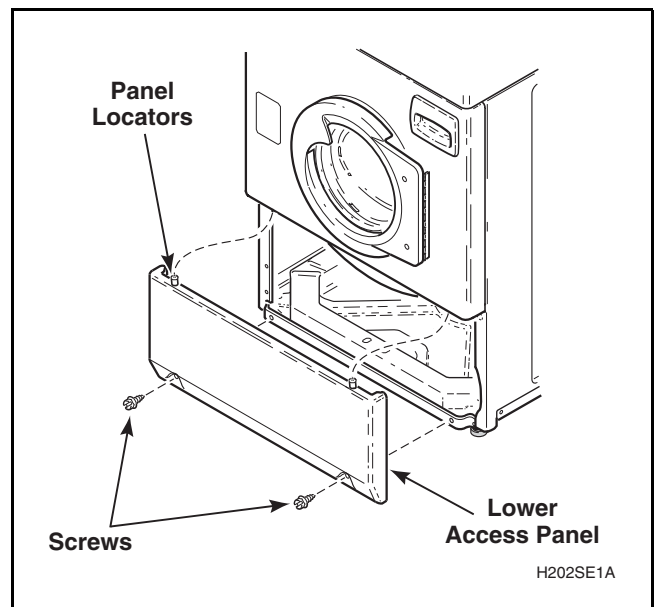

Figure 36
- a. While supporting the lower access panel, remove two screws from bottom edge of lower access panel. Refer to *Figure 36*.
- While supporting the lower access panel, remove two screws from bottom edge of lower access panel. Refer to *Figure 36*.
- While supporting the lower access panel, remove two screws from bottom edge of panel and remove panel. Refer to *Figure 36*.
- a. While supporting the lower access panel, remove two screws from bottom edge of panel and remove panel. Refer to *Figure 36*.